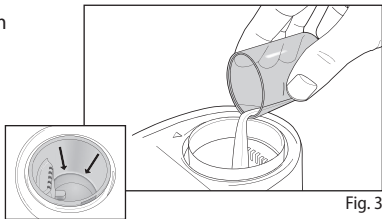

Fig. 3
4. Using the included measuring cup, add 20 ml of pure tap or distilled water to the water heater tank, Fig. 3. Note the fill line in the tank. Do not overfill. Never add saline, essential oils or other additives to the heating tank as this will damage the unit.